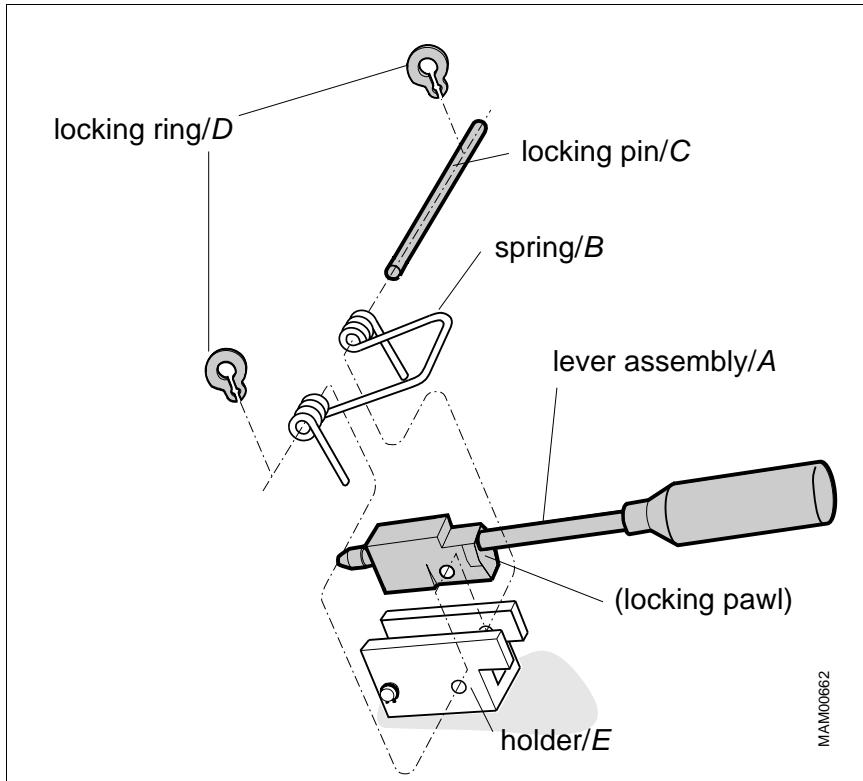

Fig. 5 Kit mounting
- Coat the outside of the locking pawl with general purpose grease. Attach the lever assembly to the holder with the new spring, the new locking pin and the new locking rings (Fig. 5).